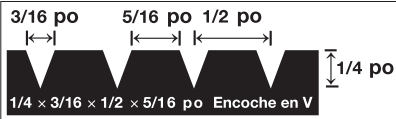

Figure 2
- Truelle de 6 × 13 × 5 mm (1/4 × 1/2 × 3/16 po) (Figure 2)